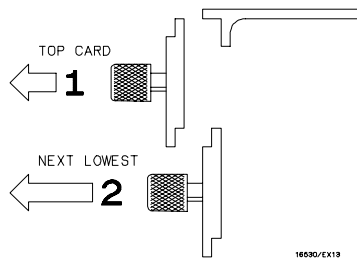

Figure 4-1. Endplate Overlap - Top Sequence
1. Remove power from the instrument. Pull halfway out all of the modules located above the oscilloscope and remove the filler panels and cards located above the oscilloscope. See figure 4-1 for the removal sequence.